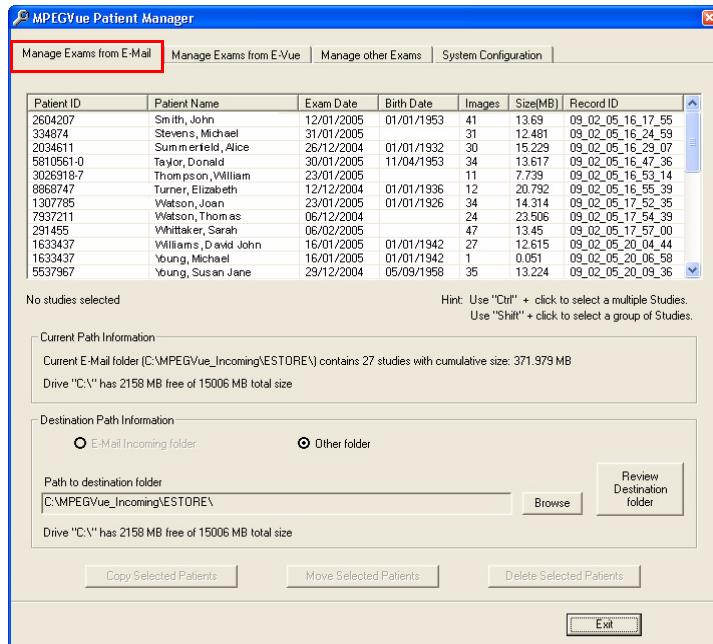

Figure 3-136 MPEGVue Patient Manager Window - Manage Exams from Email Tab
- Make sure the Manage Exams from Email tab is activated as shown in Figure 3-136.